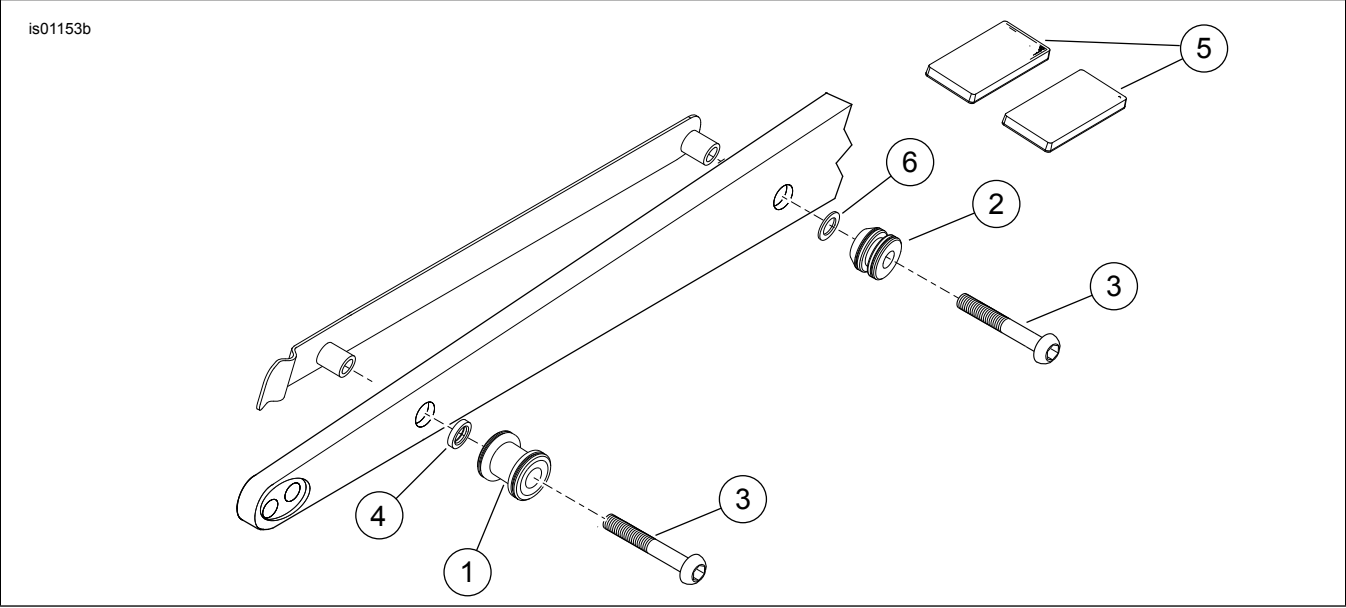

Figure 1. Service Parts: Docking Hardware Kit
See Figure 1 and Table 1.
1. See Figure 1. Remove and discard the fender support **front** screw.
2. Apply a few drops of Loctite 243 - Blue to the threads of a **new** screw (3) from the kit. Install a front docking point (2), tapered end last onto the screw threads, followed by a washer (6).